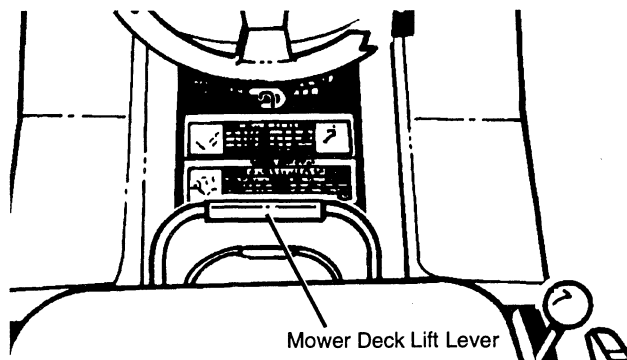

FIG. 48
- Raise the mower deck lift lever to its highest point by pressing the lift lever lock and pulling the lever up. (See Fig. 48)